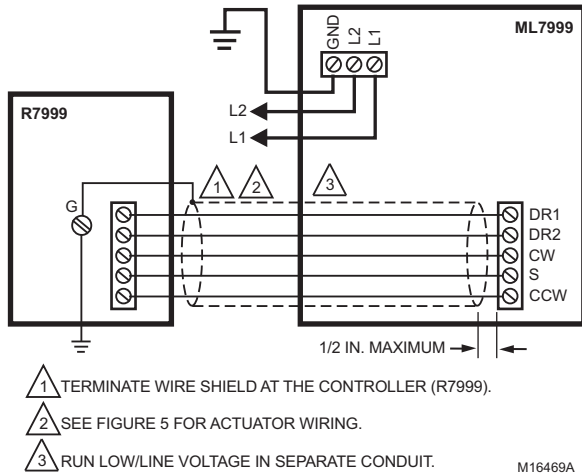

Fig. 6. Typical ML7999C wiring.
Connect the shield ground of the ML7999C Actuator(s), Remote Reset, Manual Potentiometer, Controller 4-to-20 mA and Auxiliary 4-to-20 mA inputs to the earth ground strip provided in the Q7999 Universal Subbase. Connect the shield at the controller end only. See Fig. 6.
3. Wire the low-voltage circuit to the R7999. See Fig. 6 for typical wiring connections.
5. Wire the line-voltage circuit. See Fig. 6 for typical wiring connections.